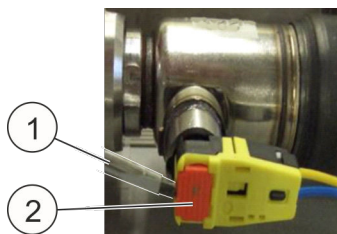

Fig. 49: Ignition plug
8. **▶** Push out the red arrest (Fig. 49/2) at the ignition plug with a small screwdriver (Fig. 49/1).